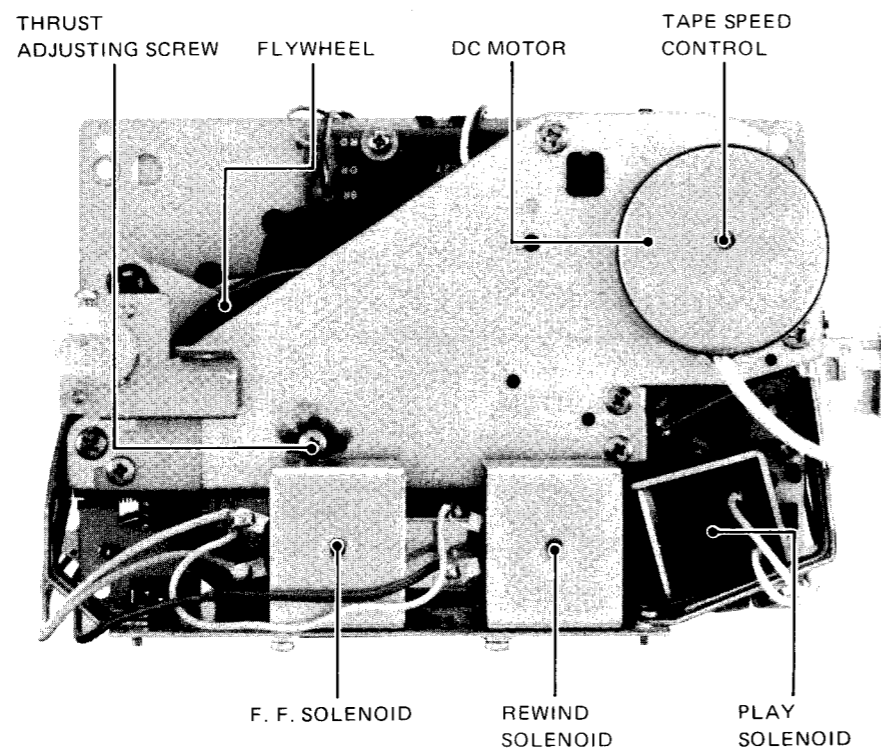

Fig. 3-4 Transport rear view
1. Turn the thrust adjusting screw so that thrust of the capstan shaft is from 0.1 mm to 0.3 mm. For the thrust adjusting screw location, see Fig. 3-4.
4. While the tape is playing, use a common slotted screwdriver with the handle completely insulated from the blade, and adjust the control built into the motor (see Fig. 3-4.) for a reading of 2,985 to 3,015 Hz on the frequency counter.
スラスト調整ねじ (Fig.3-4参照) でスラストのガタを0.1~0.3 mmの範囲内に調整.